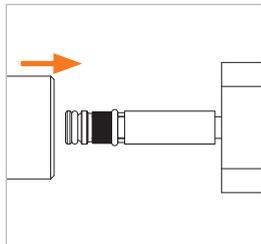

Figure 2
- ▶ Apply pilot pressure to the connector. The clamping jaws will close together and the connection to the test piece is possible (Figure 2).